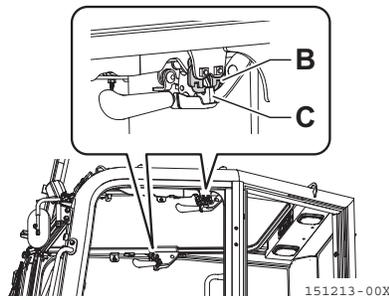

Fig. 2-88
2. After releasing the lock, slide the upper windshield up and backward while pulling it inward with both knobs until the lock (Fig. 2-88, C) on top of the upper windshield securely engages with the striker (Fig. 2-88, B) on the ceiling in the cabin.